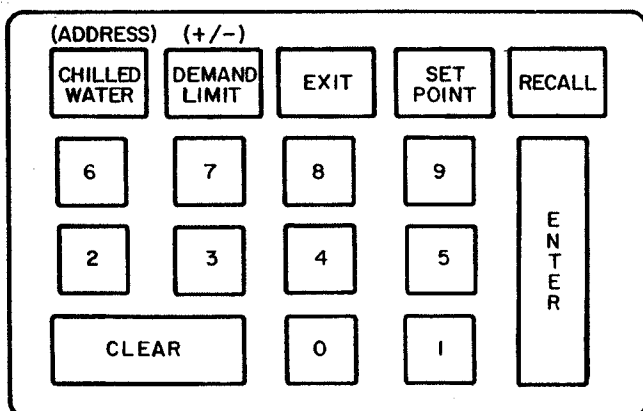

Fig. 5 — Display Functions
**General** — When performing display functions, the 7 special function keys are used as shown in Fig. 5. (Parentheses indicate secondary functions used only for programming. These are explained in the ESP Address Format section.)